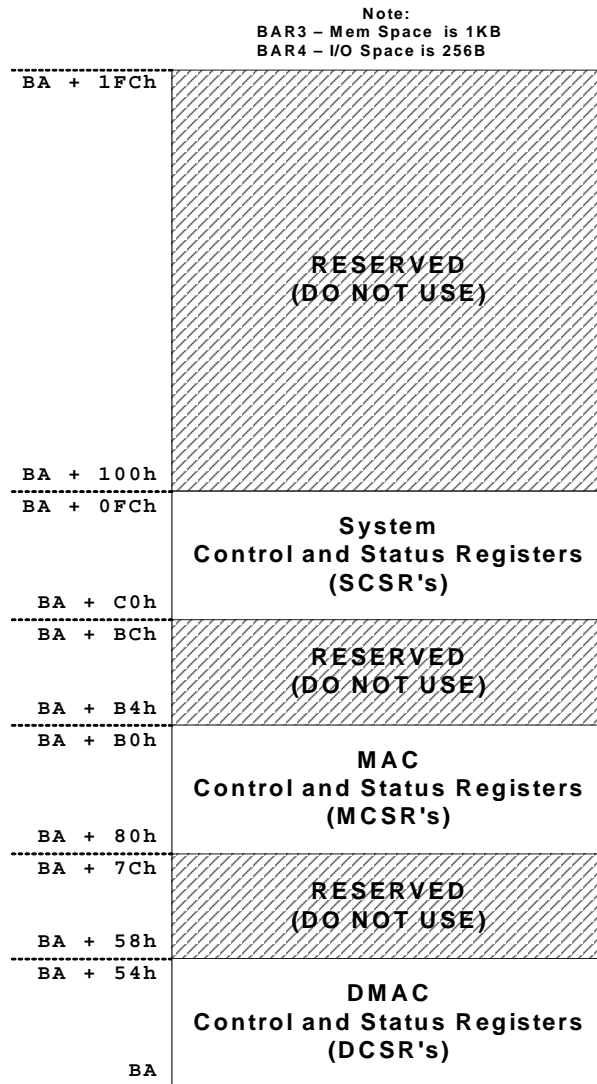

Figure 4.1 LAN9420/LAN9420i CSR Memory Map
Figure 4.1 illustrates the memory map for the first three register groups. The Base Address (BA) of the map is determined by BAR3/BAR4, contained within the standard PCI Header Registers of the CONFIG CSR. See Table 4.10, "Standard PCI Header Registers Supported," on page 150 for details. In the case of BAR3, BA may be either the address of the lower (for little endian access) or upper (for big endian access) 512 byte segment of the 1KB MemSpace. See Figure 3.3 CSR Double Endian Mapping on page 27 for details.